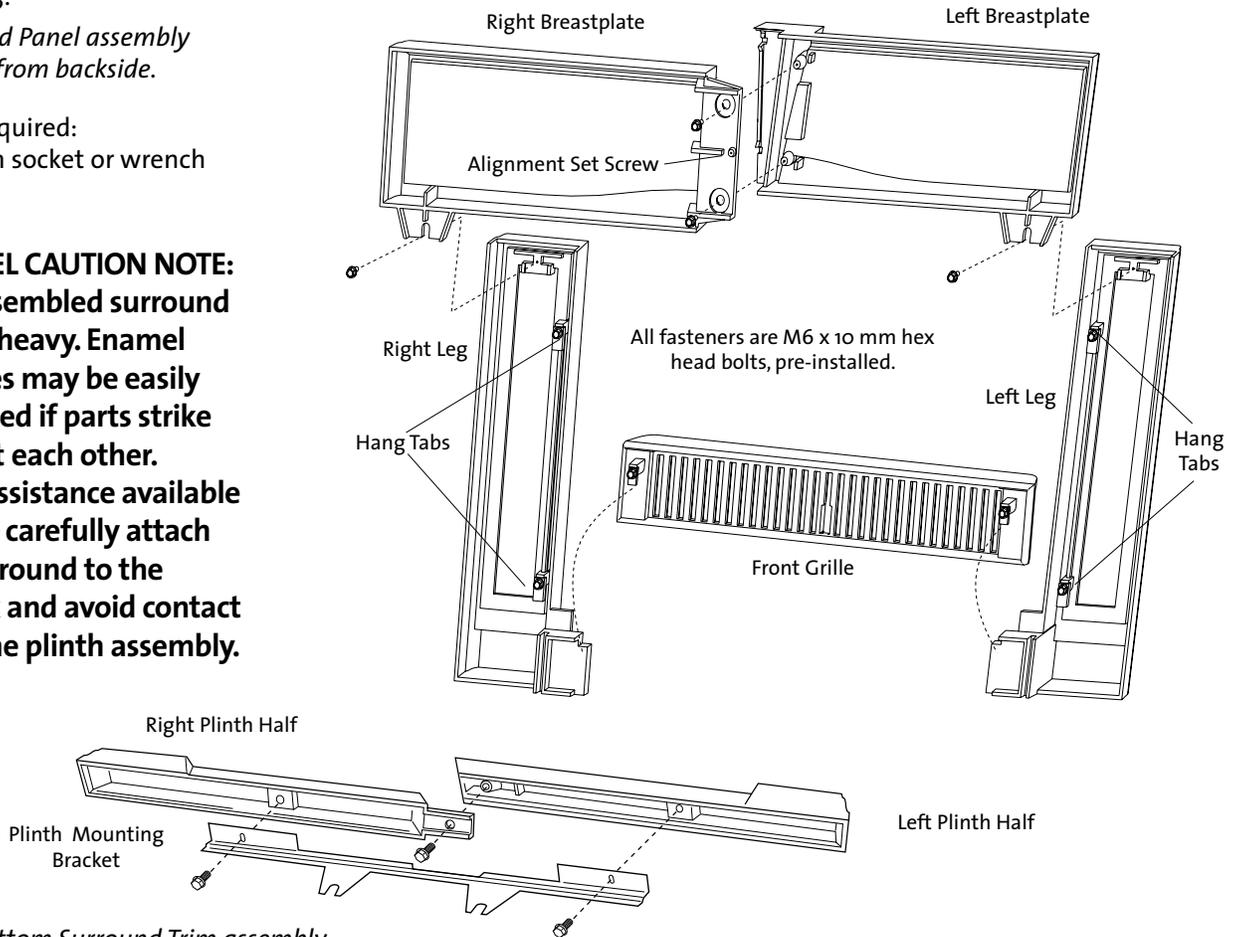

Figure 14. Bottom Surround Trim assembly.
4. Attach the two Plinth half-panels together with the single M6 x 10 hex bolt. Attach the Plinth Mounting Bracket to the back of the Plinth assembly using the other two M6 x 10 bolts and washers. Orient the bracket as shown in fig. 14.